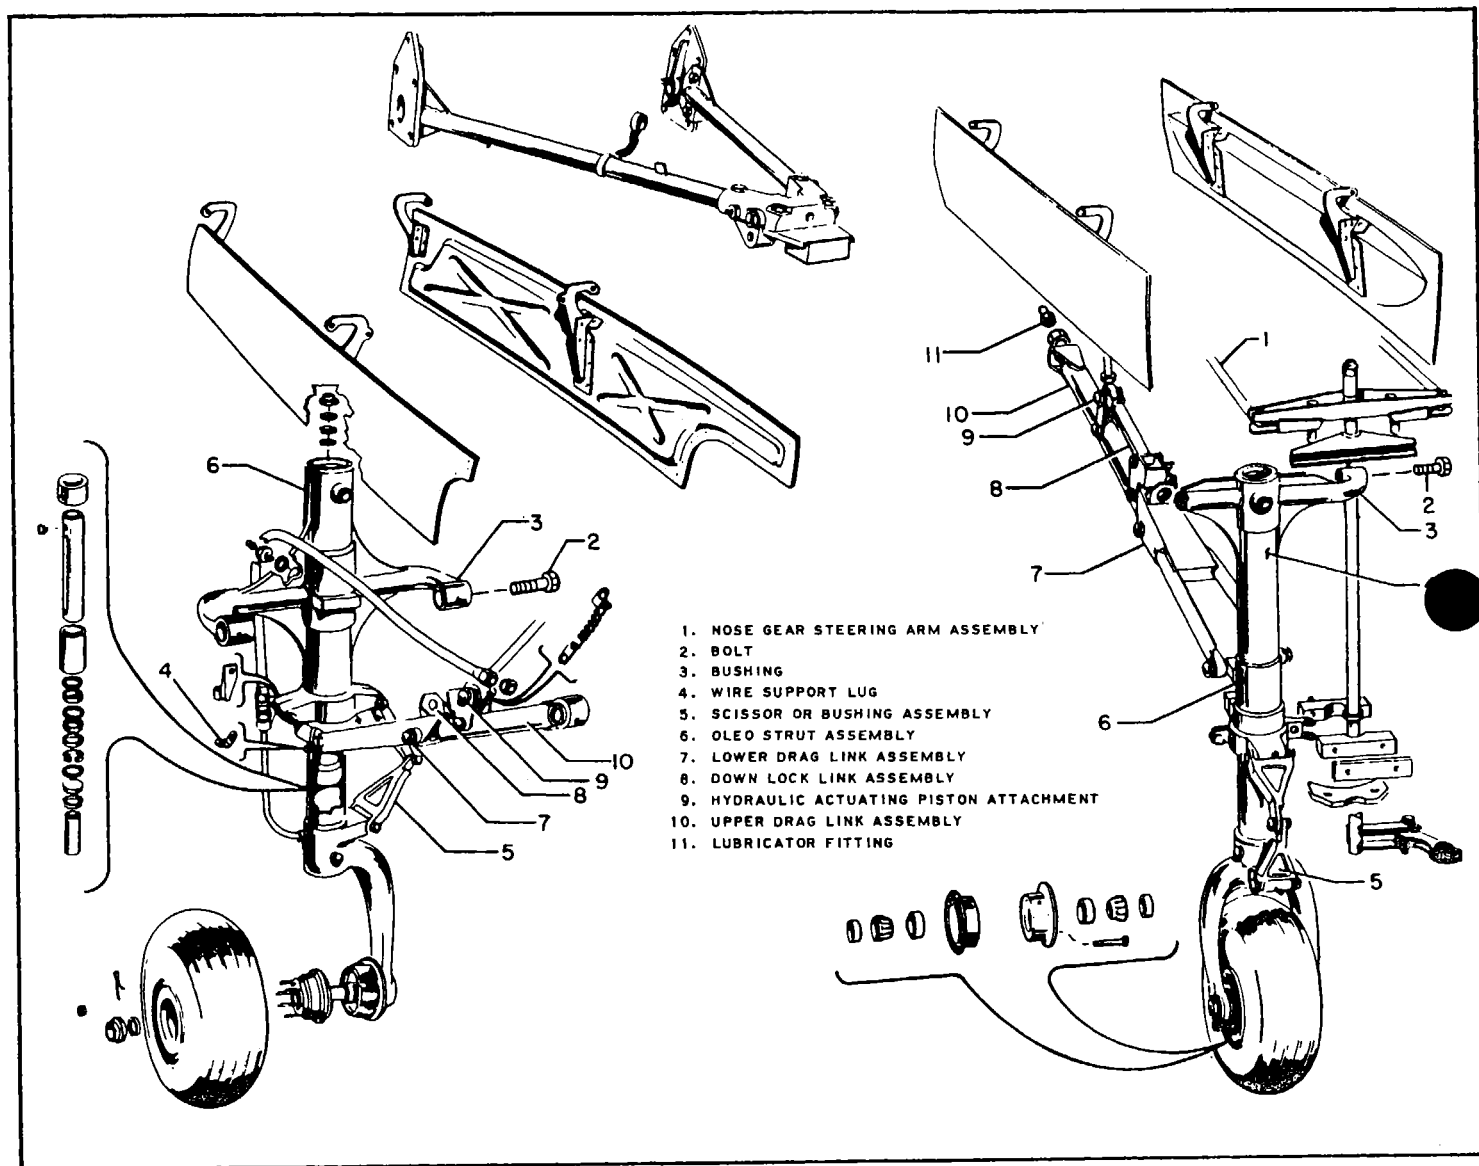
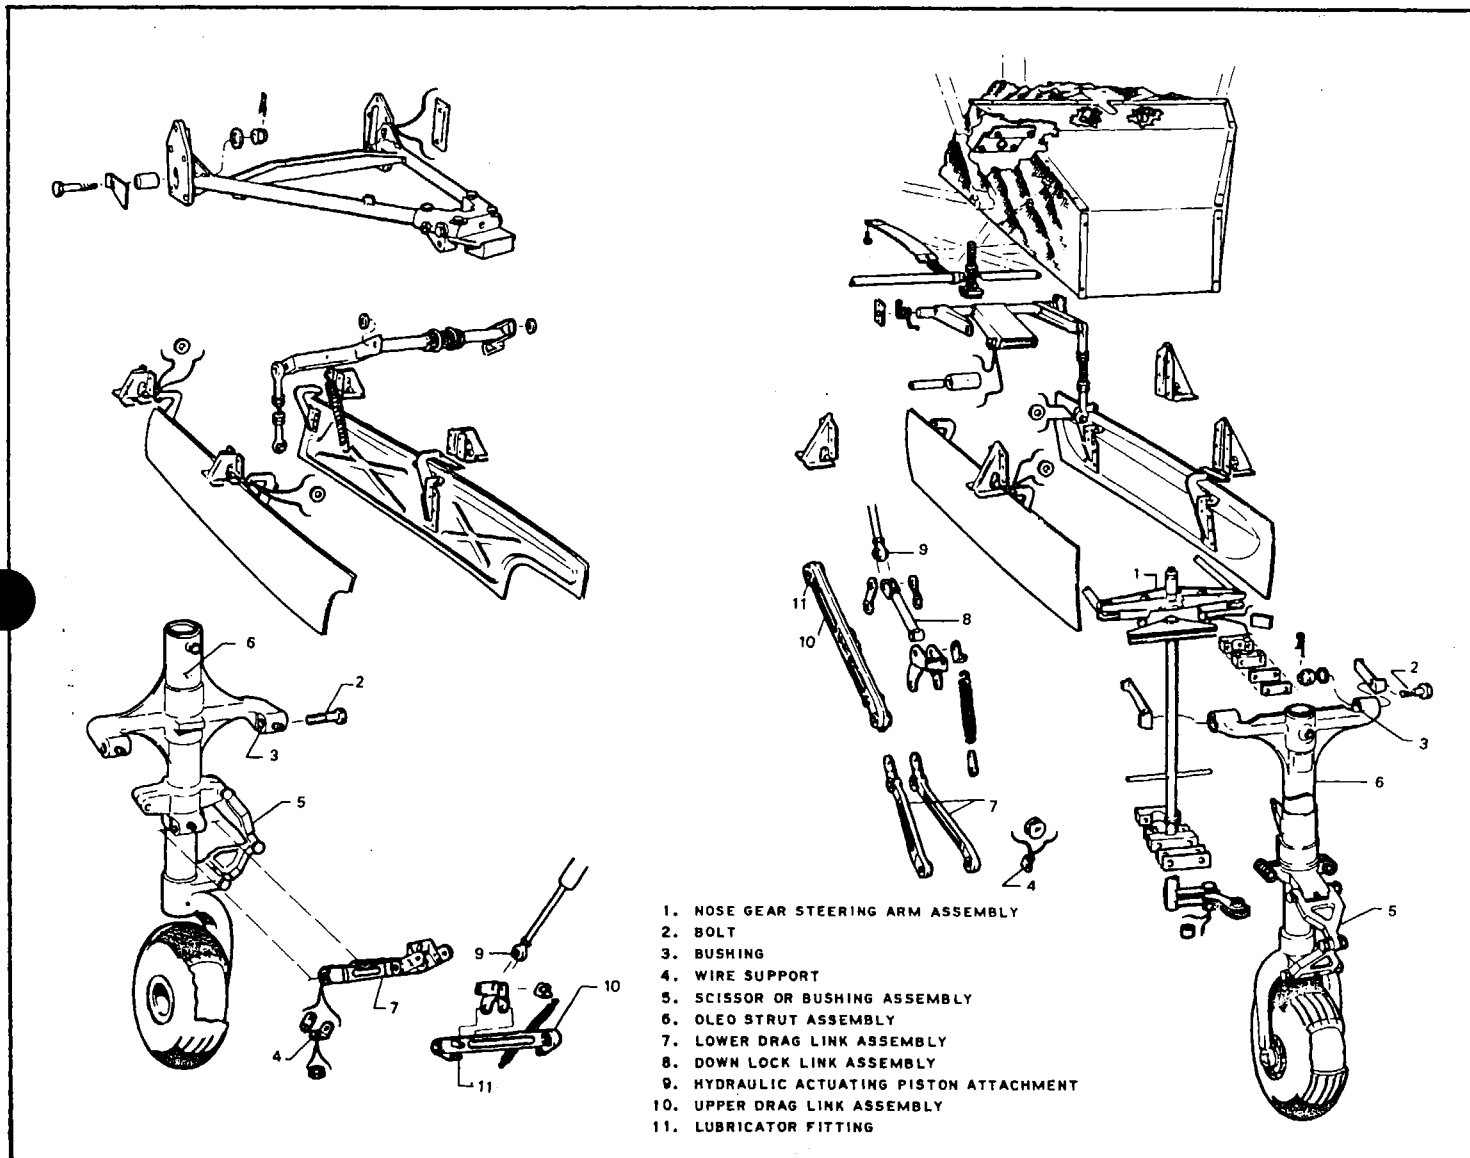
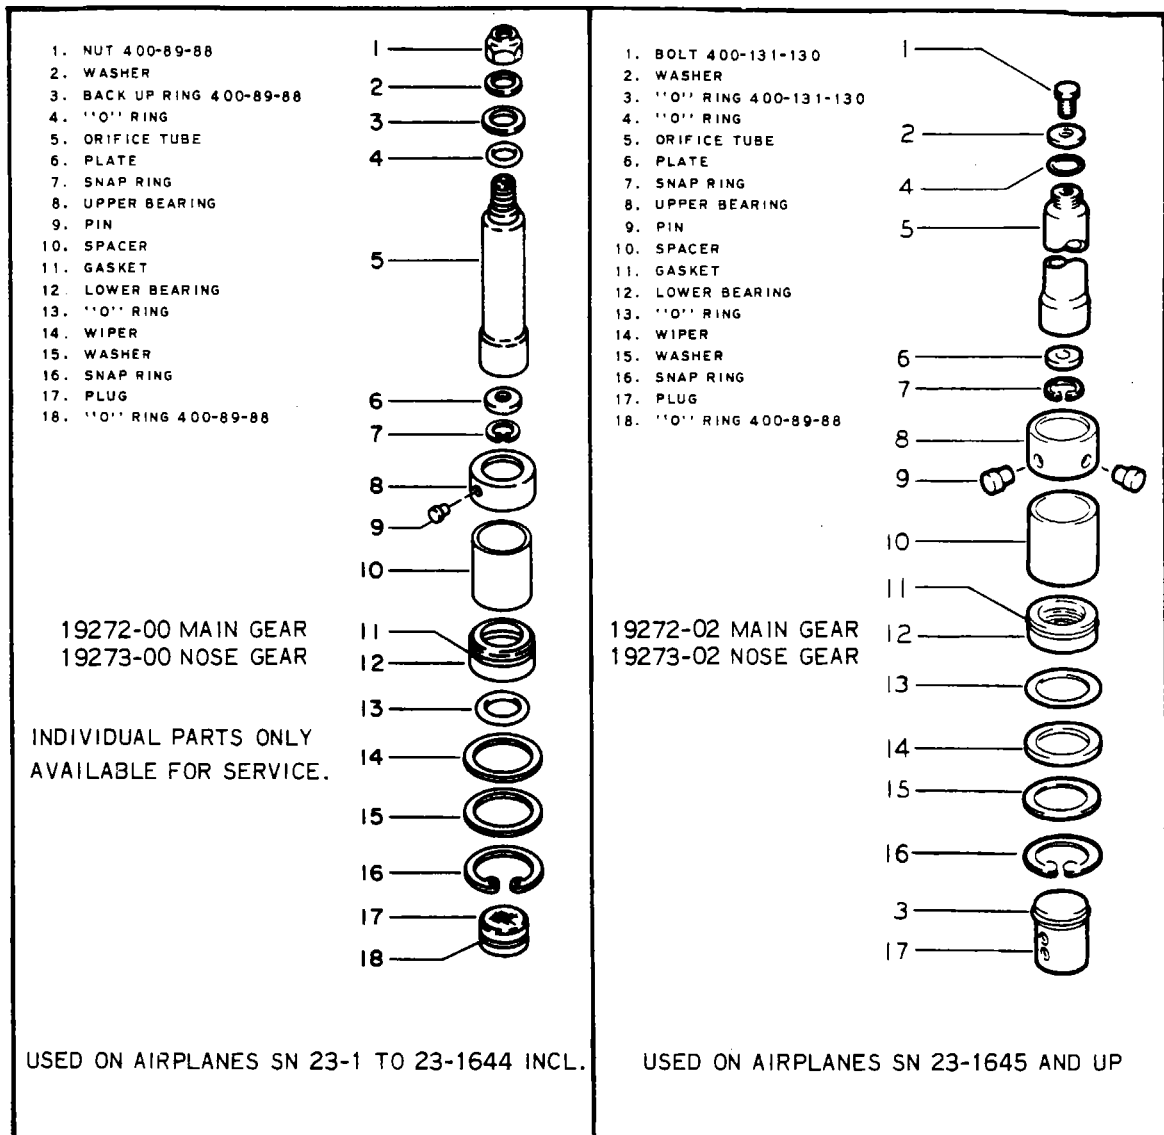

Figure 7-1. Landing Gear Installation
Figure 7-2. Landing Gear Installation
Figure 7-5. Oleo Strut, Exploded View of Internal Parts,
**7-8. MAIN GEAR REMOVAL.** Remove the main landing gear installation in a manner similar to that described for the nose gear. Refer to Figure 7-1, Serial Numbers 23-1 to 23-1837 inclusive, or Figure 7-2 for aircraft bearing serial numbers 23-1838 and up for an illustration of the gear and its related parts.
- a. Separate the scissor and bushing assembly (5, Figure 7-1.)
- b. Compress and remove the snap ring (16, Figure 7-5).
- c. Remove the fork and piston assembly of the oleo strut assembly (6, Figure 7-1) from the body and bushing assembly.
- d. Remove the bolt or nut (1, Figure 7-5) from the top of the body and bushing assembly.
- e. Remove the washer (2).
- f. Compress and then remove the snap ring (7) and the plate (6).
- g. Reach into the piston and push out the pins (9).
7-12. MAIN GEAR INSTALLATION. Install the main gear in the same general manner as the nose gear installation. (Refer to Figure 7-1 or Figure 7-2.)
- a. Install the O-ring (3 or 18, Figure 7-5) on the plug (17) and install the plug in the fork and piston assembly of the oleo strut assembly (6, Figure 7-1.)